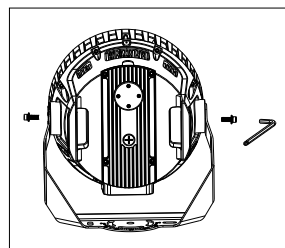

Figure 1
- Secure the FM bracket to the heat sink using M10 screws (Figure 1).